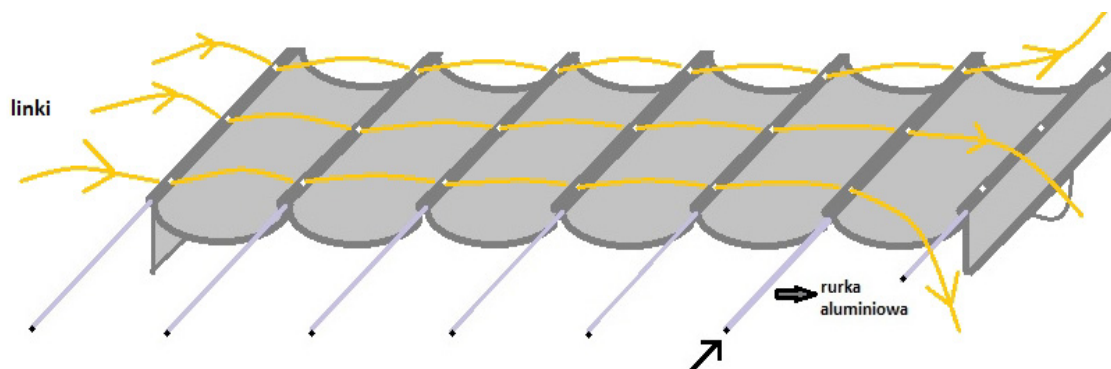

Figure 1. Gazebo strips of decor fabric with single-sided print.
- Roman blinds are not stretched - the ropes are stretched and the material is freely interlaced between them (Fig. 1.).